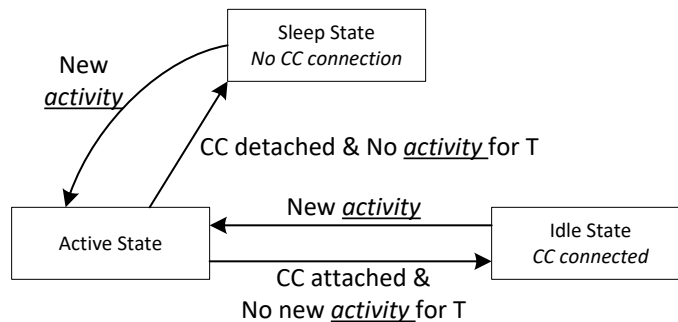

图 8-33. Flow Diagram for Power States
- (1) See 表 8-5 to see the exact meaning of I²C Address Index.
- (2) See 表 8-2 for how to configure a given ADCINx decoded value.
The TPS25751 can operate in one of three different power states: Active, Idle, or Sleep. The Modern Standby mode is a special case of the Idle mode. The functionality available in each state is summarized in 表 8-7. The device automatically transitions between the three power states based on the circuits that are active and required. See 图 8-33. In the Sleep state, the TPS25751 detects a Type-C connection. Transitioning between the Active mode to Idle mode requires a period of time (T) without any of the following activity: